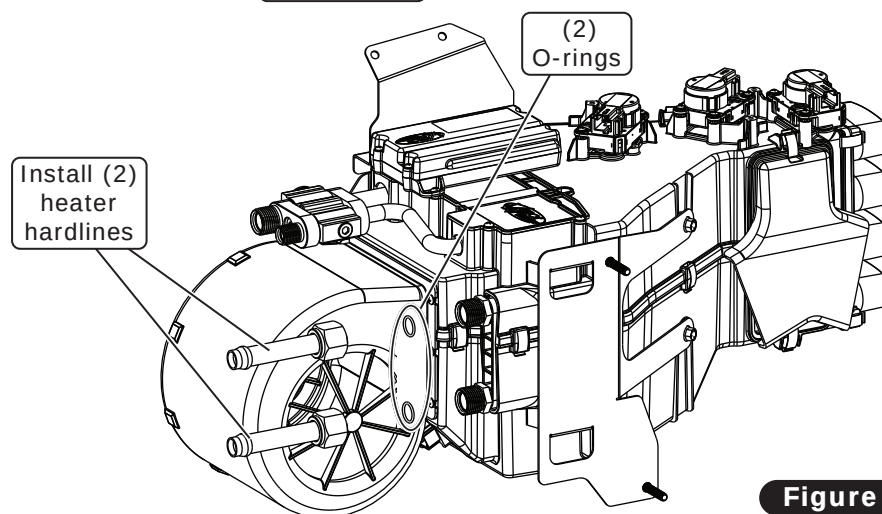

Figure 3
10. Install the (2) heater hardlines with properly lubricated O-rings (See Lubricating O-rings, Page 13 and Figure 3, below). **NOTE: Be careful when removing the caps from the sub case, sub case is shipped under pressure.**